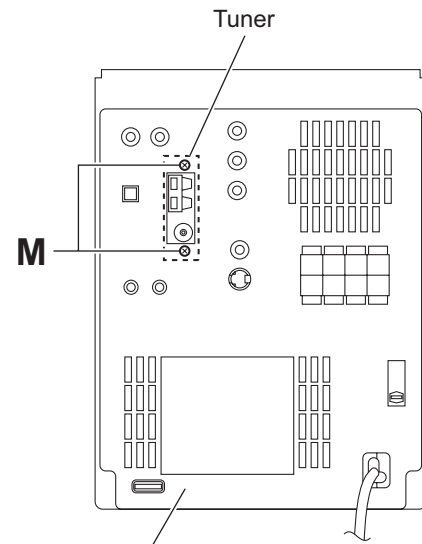

Fig.15
- (2) From the back side of the main body, remove the two screws **M** attaching the tuner to the rear cover. (See Fig.15)
- (3) Take out the tuner from the main body.